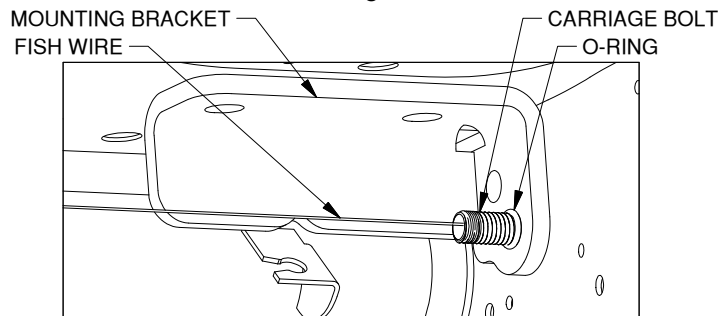

Figure B3: Looking at mounting bracket installation.
**4. Pull fish wire through frame.** With the fish wire through the locking strap push the locking strap completely into the frame. Next, pull the carriage bolt into the frame. Continue pulling on the fish wire until the threaded portion of the bolt is sticking out of the frame. Thread the mounting bracket and an O-ring over the fish wire and onto the bolt. Push the O-ring tight against the bracket, see Figure B3. This will prevent the bolt from accidentally falling back into the frame. The O-ring will stay on the bolt after the washer and nut are installed and tightened.